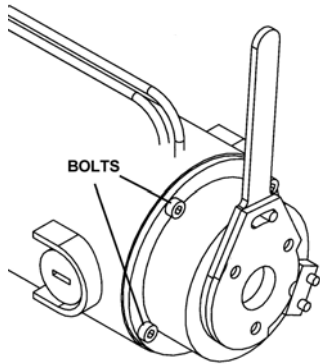
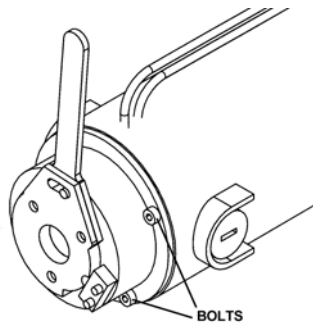

FIG. 1
FIG. 2
1. Remove the four bolts shown in figures 1 and 2. Then pull the brake off of the motor.
3. Use a thread locker such as Loctite on the (4) bolts and firmly tighten them into the motor housing. (FIG.1 and FIG. 2)